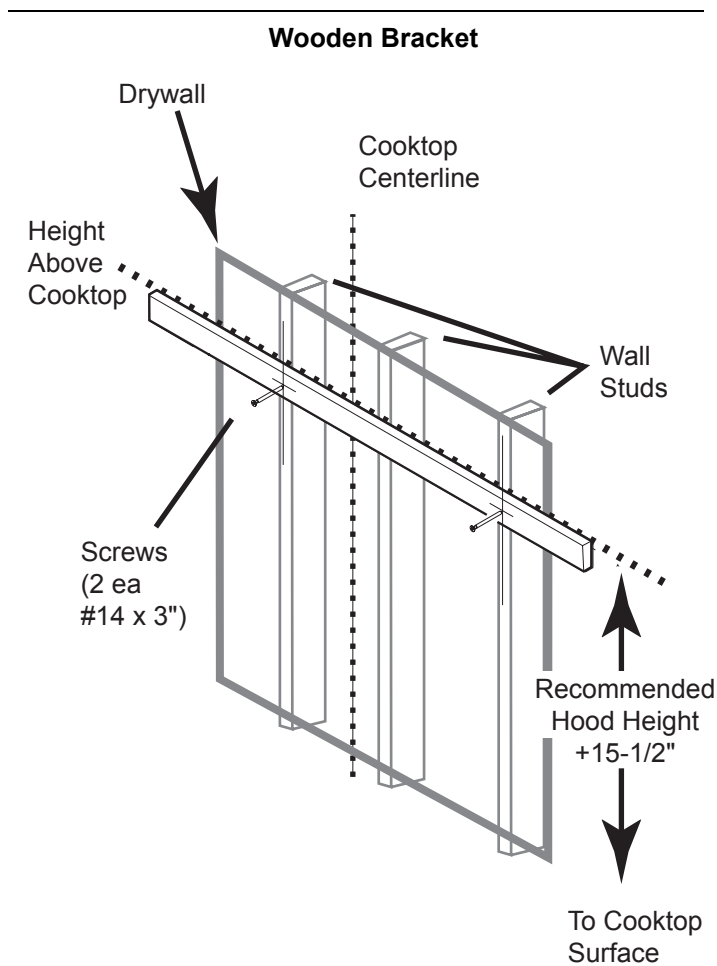

Figure 4: Mounting the Wooden Bracket
4. Locate one stud on either side of the cooktop centerline to use for mounting the wooden bracket as shown in Figure 4.
7. Use 2 or 3 (#14 x 3") screws to attach the bracket to the wall as shown in Figure 4. For support of longer hoods, use three studs. Countersink the screw heads to prevent interference with the hood.